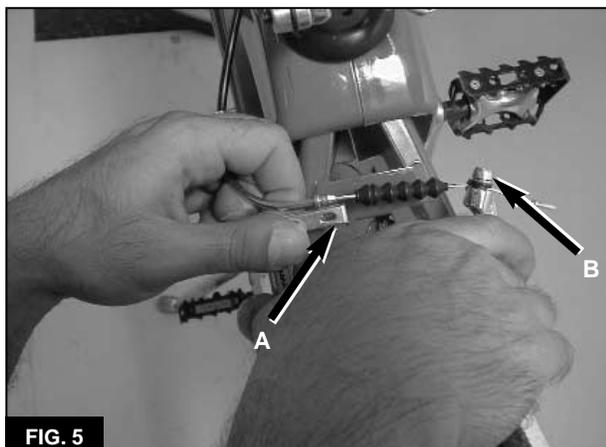

FIG. 5
- a. Squeeze the arms of the rear-brake caliper together, and disconnect the rear-brake cable guide from the bracket on the left caliper arm (A, **Figure 5**).
- b. Loosen the brake-cable pinch bolt (B, **Figure 5**), and release the inner cable end from the pinch mechanism.
- b. Tighten the brake-caliper pinch bolt (B, **Figure 5**) to the specification in Table 4.
- c. Squeeze the arms of the rear-brake caliper together, and connect the cable guide to the bracket on the left caliper arm (A, **Figure 5**).
- Squeeze the top of rear brake arms together and free the rear brake cable from the bracket on the left arm (A, **Figure 5**).
- Reconnect the rear brake cable to the bracket on the left caliper arm (A, **Figure 5**).